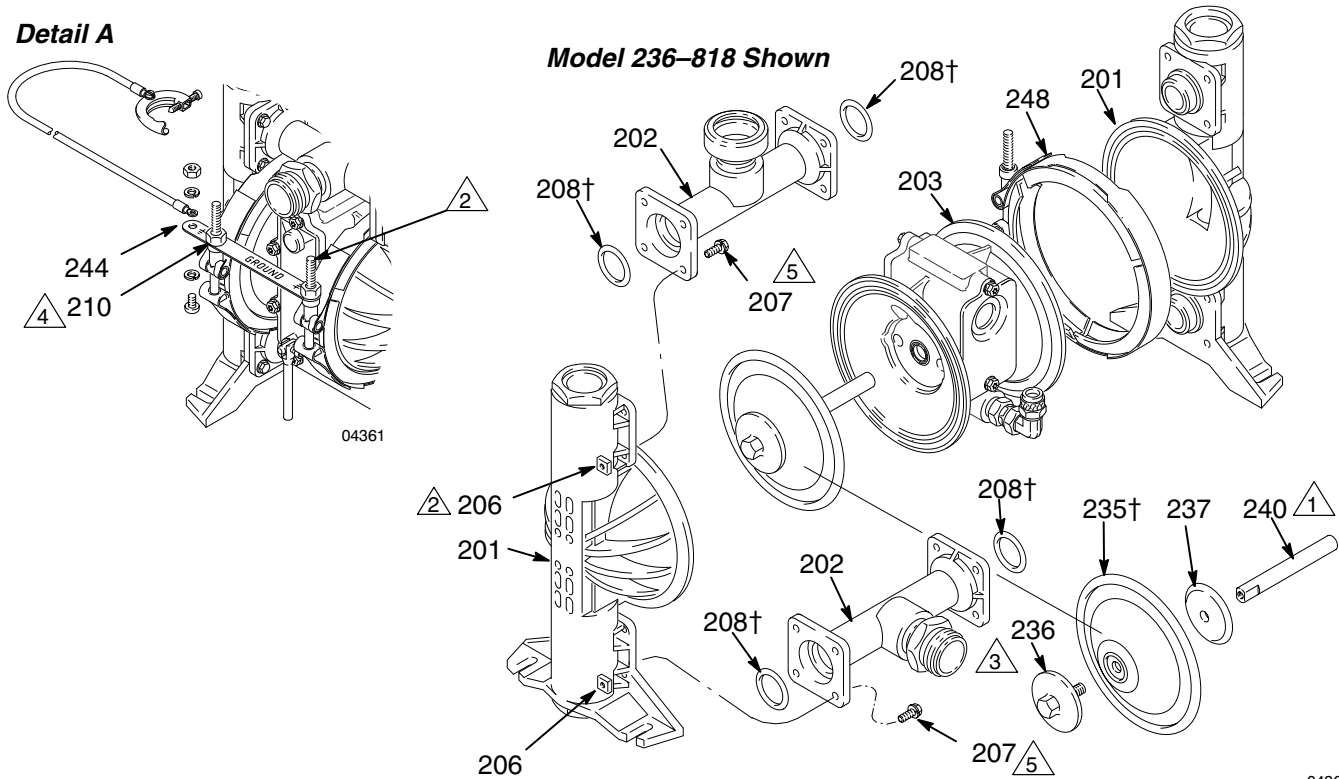

Fig. 14
2. Remove the clamp nuts (210) and the grounding strip (244). See Fig. 14. Push the threaded end of the clamps between the upper manifold (202) and the housing (203). Rotate the clamps 90° so they are parallel to the bottom manifold, slip the other end between the bottom manifold and housing, and remove them from the pump.
3. Remove the screws (207) and nuts (206) holding the manifolds (202) to the covers (201). Remove the manifolds and o-rings (208). Pull the covers (201) off the pump. See Fig. 14.
4. Unscrew one outer plate (236) from the diaphragm shaft (240). Remove one diaphragm (235) and inner plate (237). Pull the opposite diaphragm assembly and the shaft out of the pump housing (203). See Fig. 14. Clamp the shaft in a vise with soft jaws (or grip the flats with a wrench) and unscrew the outer plate (236), then disassemble the remaining diaphragm assembly.
- Install the o-rings (208†) in the manifolds (202). Position the manifolds (202) as desired and install on **one** of the covers (201). Secure with the screws (207) and nuts (206). Torque to 20 to 25 in-lb (2.3 to 2.8 N.m).
- Place the pump housing (203) on this cover, oriented as shown in Fig. 14. Then place the other cover on the housing and secure to the manifolds with the screws (207) and nuts (206). Torque to 20 to 25 in-lb (2.3 to 2.8 N.m).
- Install the clamps in the reverse order of step 2 on page 15. The clamp bolts should be on the air valve side of the housing, and pointing up toward the top of the pump (Model 236–818 only). Install the grounding strip (244) on the bolts. Apply thread lubricant to the bolts. Torque the clamp nuts (210) to 75 to 85 in-lb (8.5 to 9.6 N.m). See Fig. 14.
-  The words “AIR SIDE” on diaphragm (235) must face into the pump housing (203).
-  Flat side of plates (237) must face center of pump.